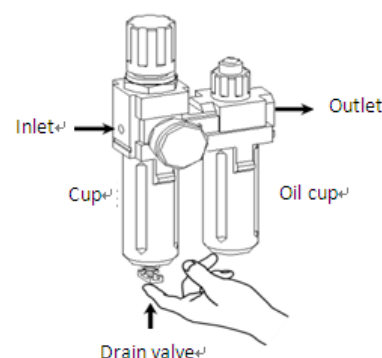

Fig 9-1
- As shown in Figure 9-1, when you found there are some water in the cup, push up the drain valve to drain away water with your fingers; loosen your fingers after drained water, drain valve can be automatic closed under the action of the spring.